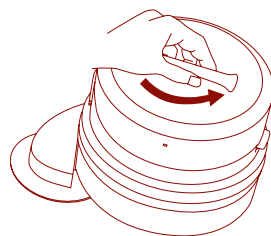

Figure 3
4. Remove the Ice Reservoir Lid by rotating it counter-clockwise and lifting up. (Figure 3)